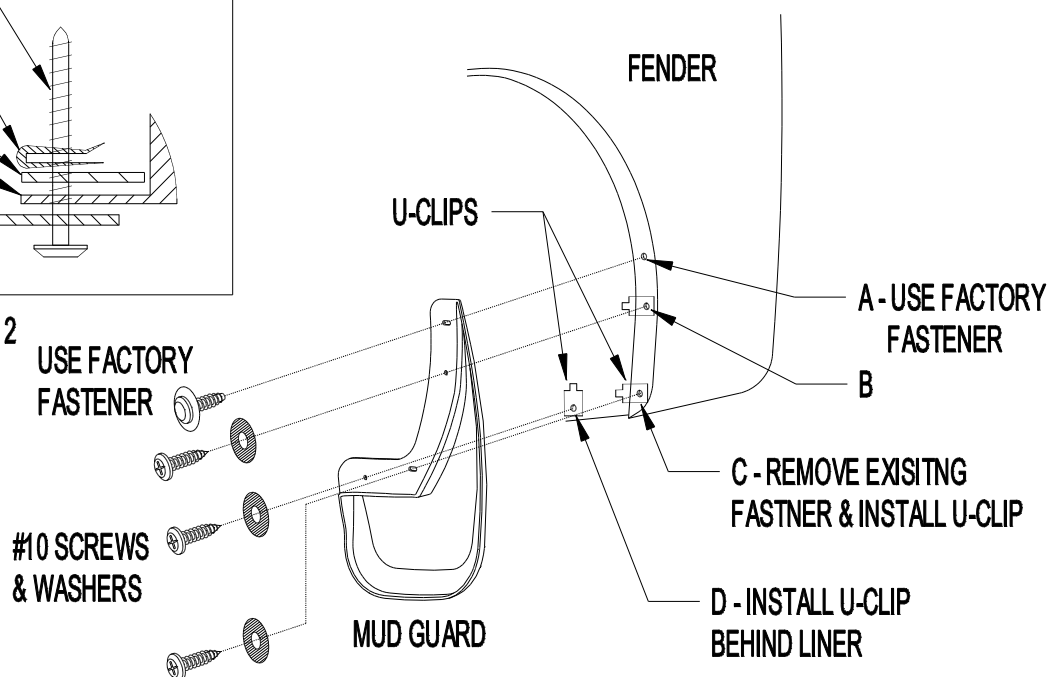

Figure 1
- #10 screw (6)
- Washers (6)
- U-clip (6)
2. Remove existing fastener from location A and plastic fastener from location C (Figure 1).
3. Install mud guard to rear fender with existing fastener at location A (Figure 1). Check fit and parallel and adjust accordingly before tightening.